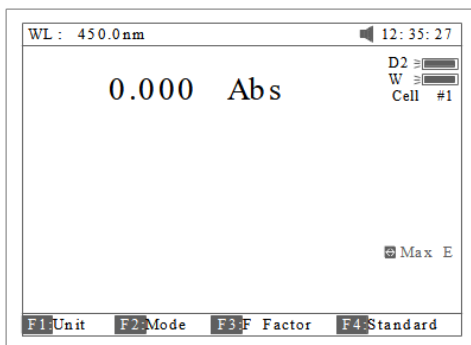

Fig 12
- Press **【ENTER】** to change the wavelength from 656.1nm to 450.0nm, and then blank; After blanking, the screen displays as Fig 12.